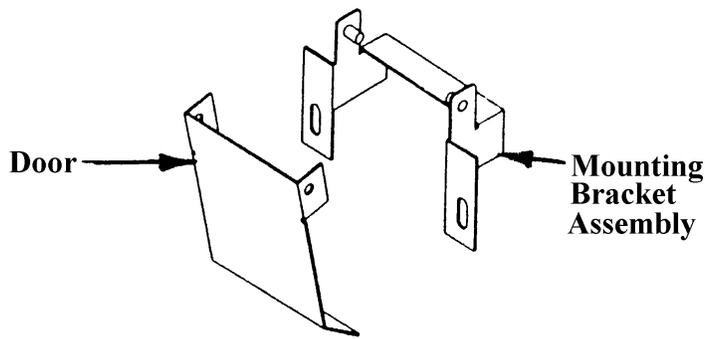
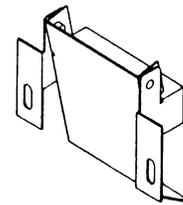

Figure 1
Figure 2
2. Install coin cup door to mounting bracket. (See figure 1.)
3. Once assembled, hold the door in the open position (as shown in figure 2), place the assembly in position so that "Area A" in figure 1 overlaps the top lip of the change cup. (See "Area B" in figure 2.)
6. Install coin cup door to mounting bracket. (See figure 2.)